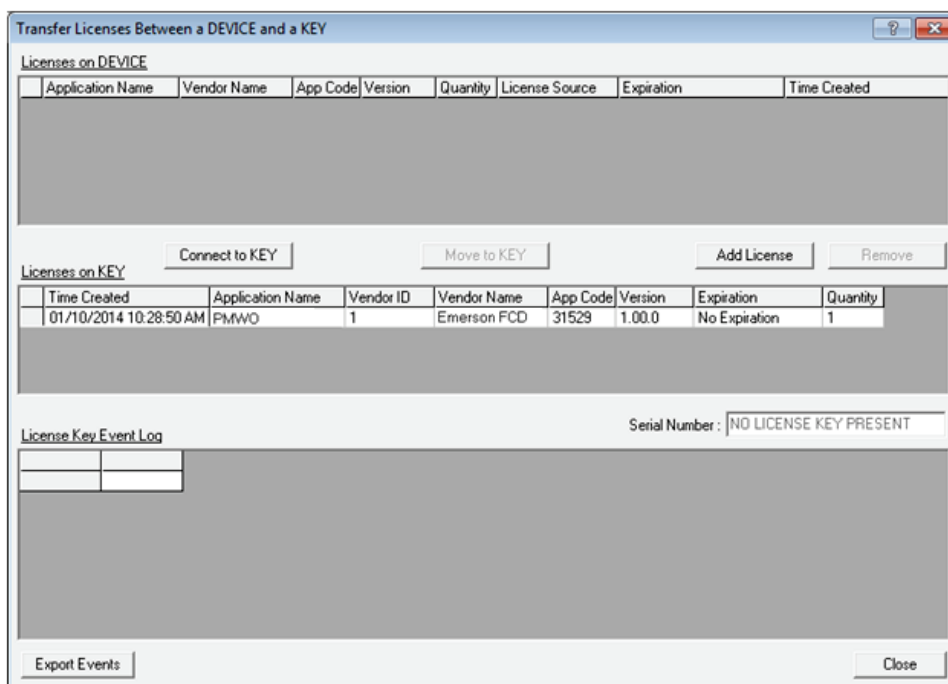

Figure 3. Transfer Licenses Between a Device and a Key
3. Select the key-based license you want to transfer to the FB107 (PMWO, as shown in *Figure 3*).